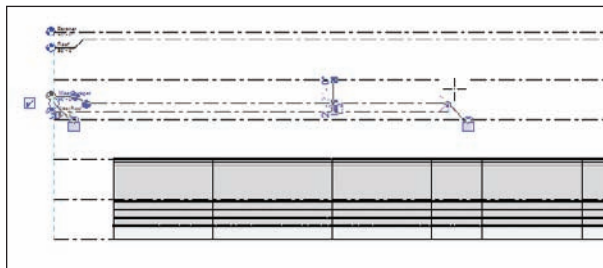

FIGURE 3.26 You can drag the 2D level ends wherever you want them.
8. Pick the blue grip and drag the end to the left side of the building approximately to the location shown in Figure 3.26. Notice that the two 2D lines are locked to one another.